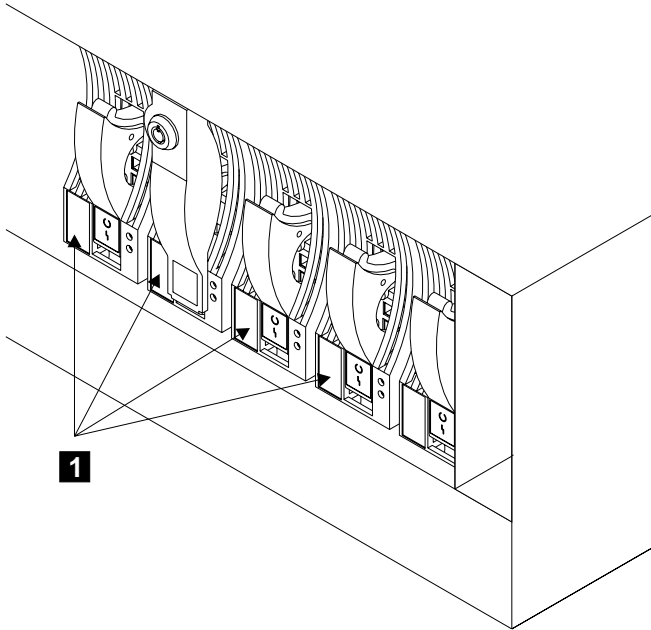

Figure 9. Serial-Number Label on Disk Drive Modules
3. Before you start to remove any modules, note which slots in the 7133 contain disk drive modules, and which contain dummy disk drive modules. This action helps you to reinstall the modules into their correct slots after you have installed the 7133 into the rack. Disk drive modules have a serial-number label **1**; dummy disk drive modules do not (see Figure 9).